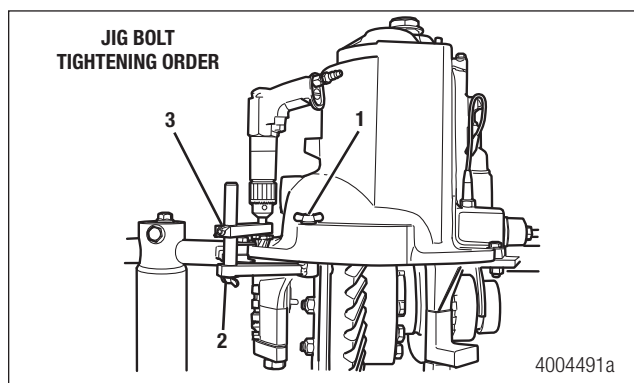

Figure 11
5. Tighten the jig bolts in the order shown. Figure 11. The tapered reamer bit pilot must be all the way in the carrier hole and positioned 90 degrees to the carrier flange.